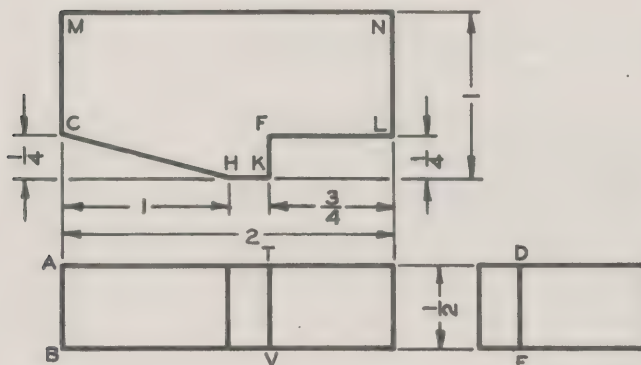
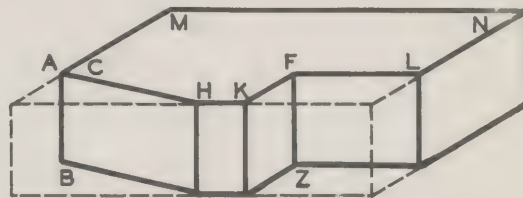

Fig. 127.
Fig. 128.
Let us see how this principle of shop sketching can be applied to a particular object. As an example, consider the part shown in the Three View Drawing of fig. 127.
To make a picture drawing of the object shown in the Three View Drawing, fig. 127, start with a lightly drawn crate like the one in fig. 126. Find the points C, H, K, F, and L in fig. 127. Locate these points on the crate as in fig. 128 by finding the distance each point is from some corner of
6. Referring to figs. 127 and 128, answer the following questions: